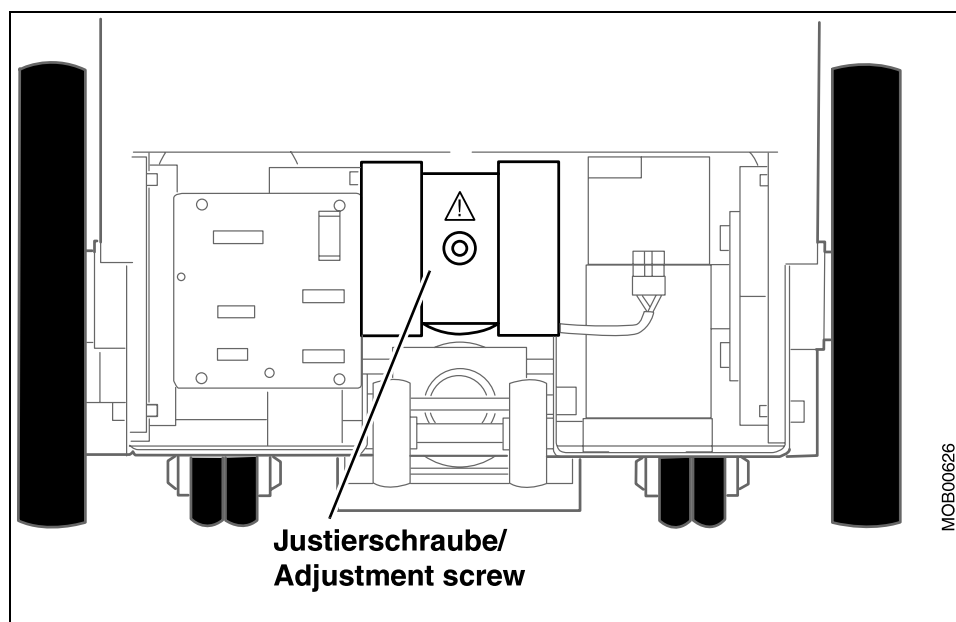

Fig. 65: Adjusting the counterweight
- Loosen the adjusting screw until the arm is no longer held by the spring offset (Fig. 65 / p. 73). Do not unscrew the adjusting screw any further or the spring assembly will fall.